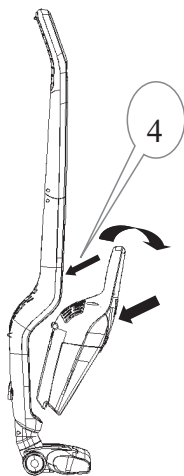
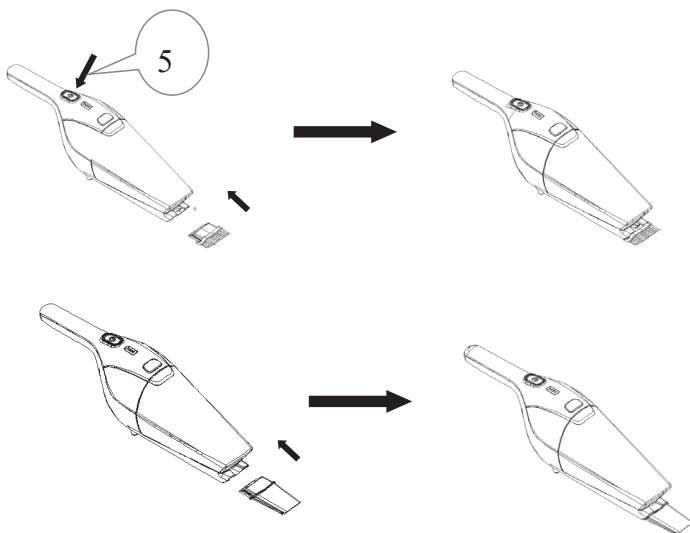

Fig. 6
Fig. 7
Press down the sub-unit release button (4) (see Fig. 6), grasp the handle of sub-unit to remove it by following the arrow shown, and then press down the sub-unit switch (5) (see Fig. 7), the sub-unit enters into working condition, and you can press the switch (5) to make it stop working.
If need to use brush for upholstered furniture, please insert it into the suction nozzle of sub-unit by following Fig. 7, and then activate it again; If need to use crevice nozzle, insert it into the suction nozzle of sub-unit by following Fig. 7, and then activate it again.